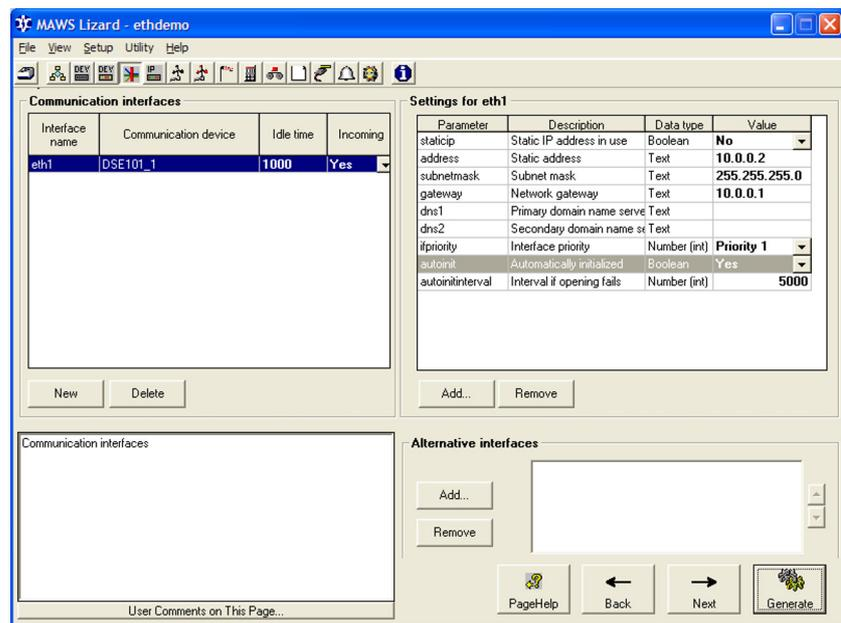

Figure 150 Network Interface Configuration for Ethernet Module
2. Adding Ethernet module DSE101 to the setup automatically creates the corresponding communication interface. The interface is named **eth0** or **eth1**, depending on the module place used. See Figure 150 on page 311.